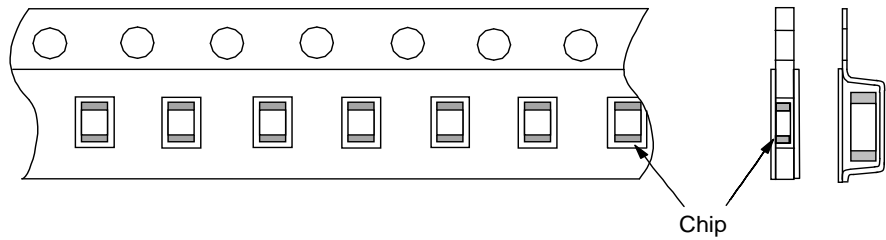

Fig.2 Dimensions of Reel
| 18 | Board Flex | Appearance | No marking defects | <p>Solder the capacitor on the test substrate(glass epoxy board) shown in Fig1.</p> <p>Then apply a force in the direction shown in Fig 2 for 60s.</p> <p>The soldering should be done by the reflow method and should be conducted with care so that the soldering is uniform and free of defects such as heat shock.</p> <table><tr><td>Type</td><td>a</td><td>b</td><td>c</td></tr><tr><td>GCE18</td><td>0.6</td><td>2.2</td><td>0.9</td></tr><tr><td>GCE21</td><td>0.8</td><td>3.0</td><td>1.3</td></tr></table> <p>(in mm)</p>  <p>Fig.</p>  <p>Fig.2</p> | Type | a | b | c | GCE18 | 0.6 | 2.2 | 0.9 | GCE21 | 0.8 | 3.0 | 1.3 |
1.11 Reel is made by resin and appeaser and dimension is shown in Fig 2. There are possibly to change the material and dimension due to some impairment.